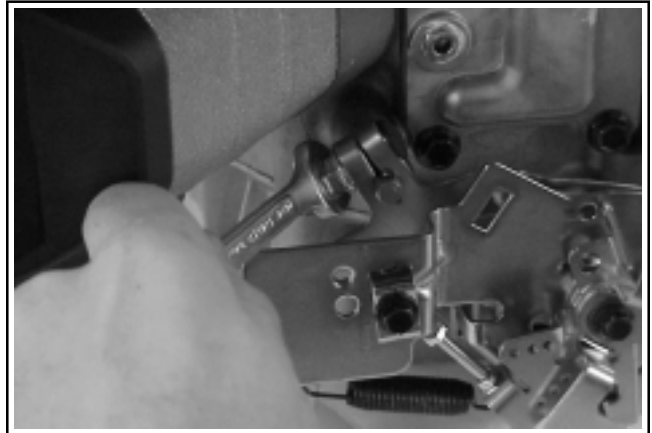

**Figure 9-16. Lifting Edge of Lower Housing/Removing Carburetor.**
3. Gently lift up on the lower blower housing, directly above the carburetor, and slide the carburetor outward on the studs. See Figure 9-16.